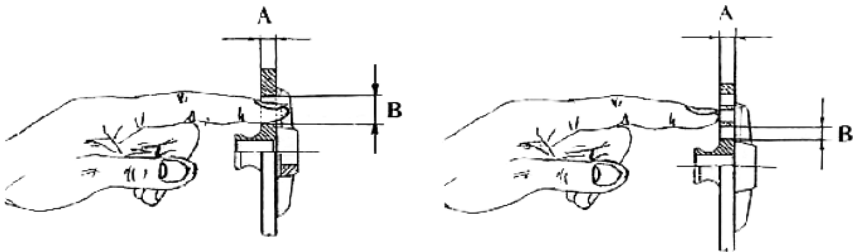

Fig. 4. Dimensions of the strainers affecting the safety of use
- 10) Use of screens with holes with a diameter greater than 8 mm, while the thickness of the screens used cannot be less than 5 mm (Fig. 4).